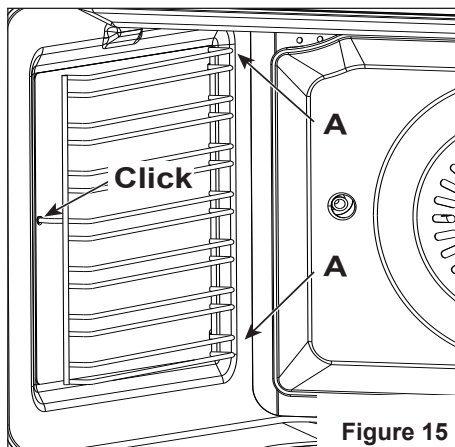

Figure 15
- Slide the rear prongs of the side rack into the holes "A" at the rear of the oven (fig. 15).
- Slide the front prong of the side rack into the holes at the front of the oven (fig. 15).